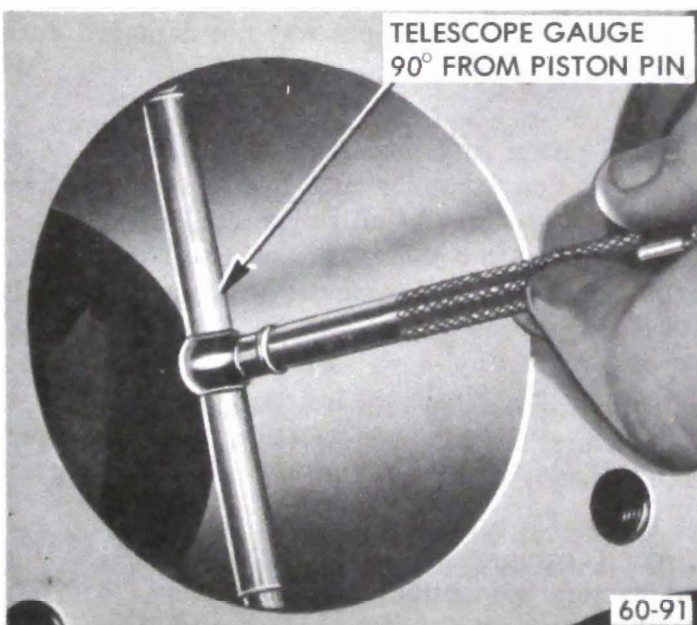

Figure 60-40 - Checking Cylinder Bore
1. Expand a telescope gauge to fit the cylinder bore at right angles to the piston pin and between 1-1/2" and 2" from the top. See Figure 60-40.